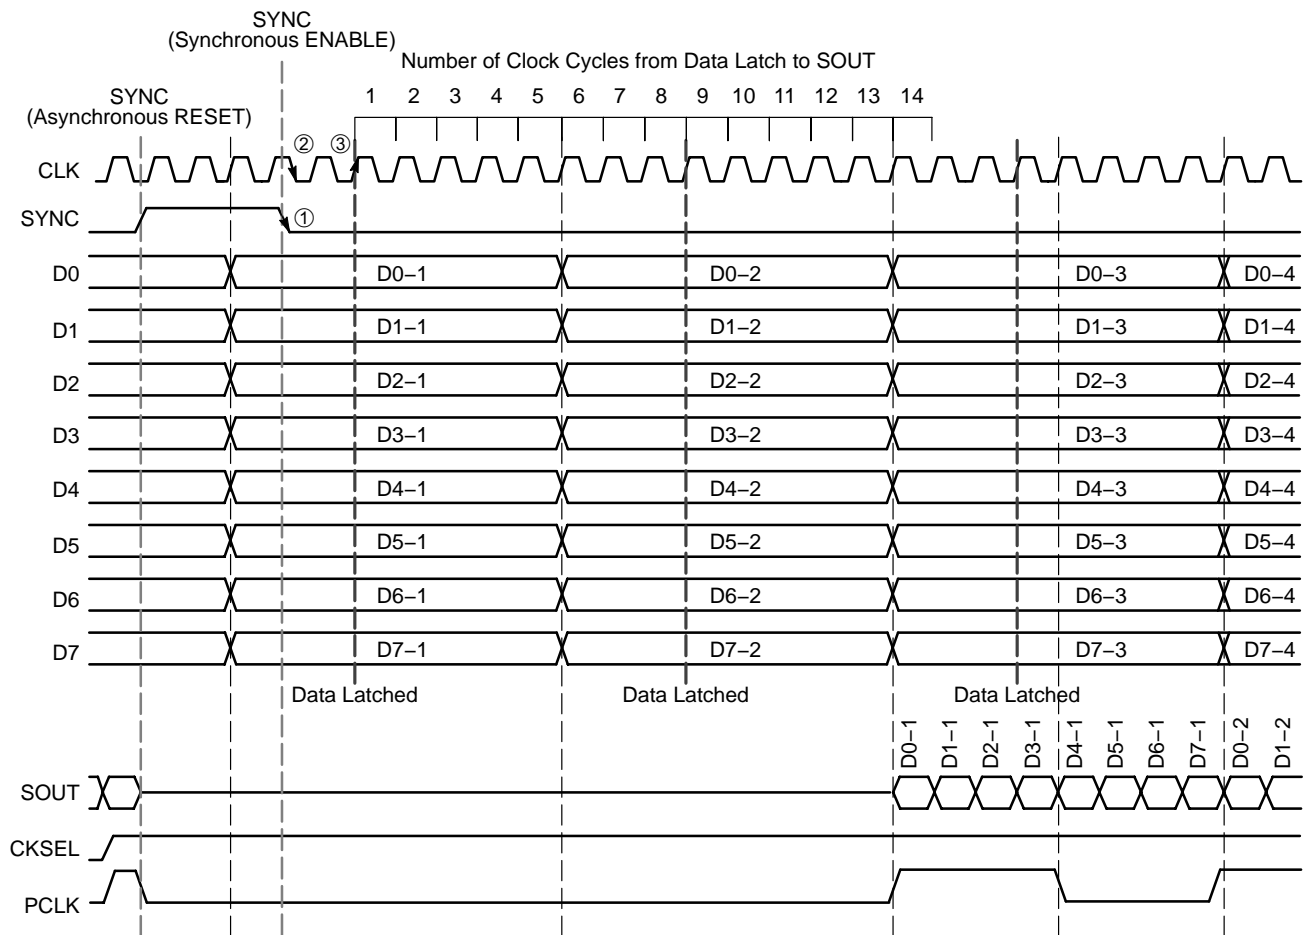

Figure 10. Timing Diagram 1:8 Parallel to Serial Conversion with CKSEL HIGH and SYNC
For CKSEL HIGH, as shown in the timing diagrams below, the device will start to latch the parallel input data after the falling edge of SYNC ①, followed by the falling edge CLK ②, on the second rising edge of CLK ③ (Figures 10 and 11).